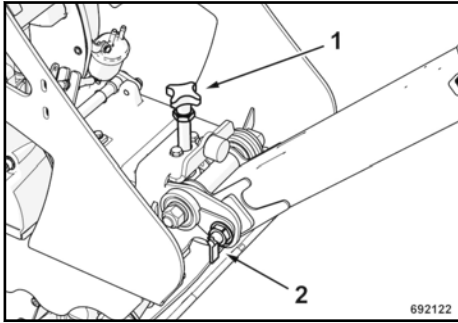

Fig. 12
Pull out and turn the locking bolt (2) ↻ Fig. 12.